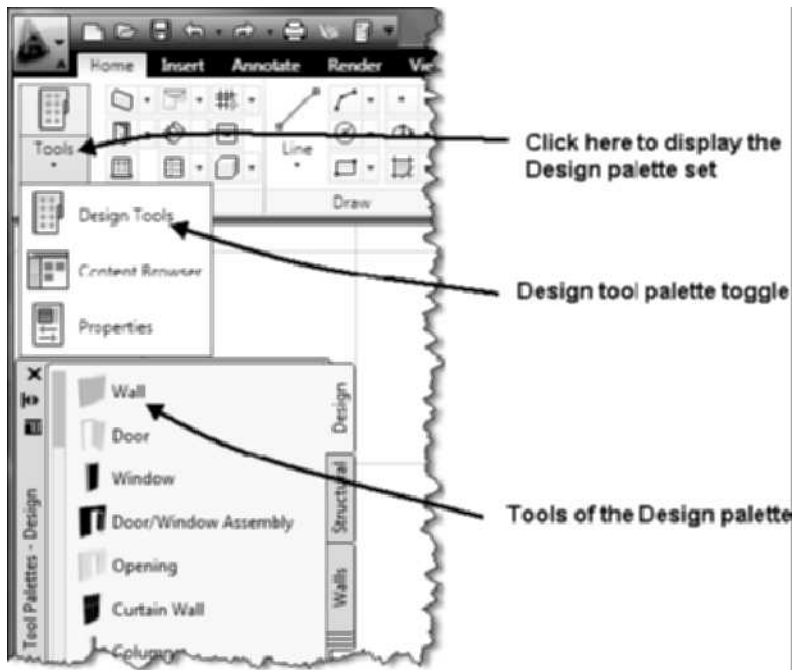
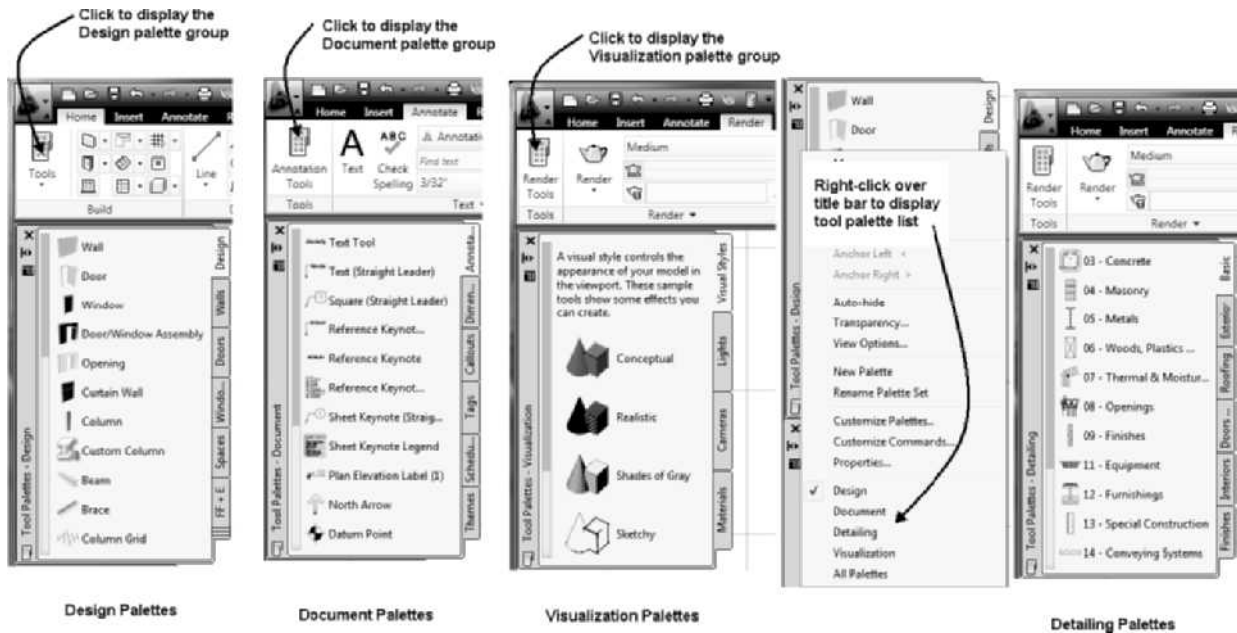

FIGURE 1.18 Accessing the Design tool palettes of the Home tab
FIGURE 1.19 Tool palette groups
Select commands by clicking the icon of the tool palette as shown in Figure 1.18. When the command is executed, the Properties palette opens; review the settings in the Design tab and respond to the prompts in the command line or the Dynamic Prompts in the workspace. The tool palettes can be customized to include additional tools needed by the designer. You can drag styles of objects created in the **Style Manager** to a tool palette. You can click and drag content such as plumbing fixtures and furniture from the DesignCenter and **Content Browser** onto tool palettes. These palettes are grouped into four palette sets: Design, Document, Detailing, and Visualization. The content of the palette sets consists of a sample of tools available from the Content Browser. You can right-click over the title bar of the tool palettes and choose the palette set as shown in Figure 1.19. The Design, Document, and Visualization palette groups can be accessed from the Ribbon as shown in Figure 1.19.
2. Choose the Annotate tab. Click twice the **Annotation Tools** button of the Tools panel at left on the tab to display the Document palette set as shown in Figure 1.19. The Document palette includes tool palettes for dimensioning, annotating, tagging, placing callouts, and placing schedules.
3. Choose the Render tab. Choose the **Render Tools** button of the Tools panel located at left on the tab to display the Visualization palette set as shown in Figure 1.19. The Visualization palette includes Visual Styles, Lights, Camera, and Materials palettes.